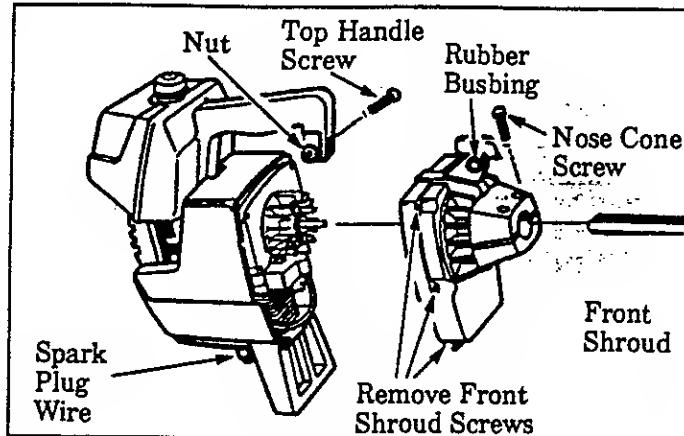

Figure 21
- Disconnect Spark Plug Wire. Figure 21.
- Loosen two "Nose Cone" Screws and remove Drive Shaft Housing from front shroud. Figure 21.
- Remove the six Front Shroud Screws with the small hex wrench provided. Figure 21.
- Remove the Top Handle Screw and Nut, and remove the Steel Spacer from the Rubber Bushing on the Handle Mount. Figure 21.
- Separate Front Shroud from Engine. Figure 21.